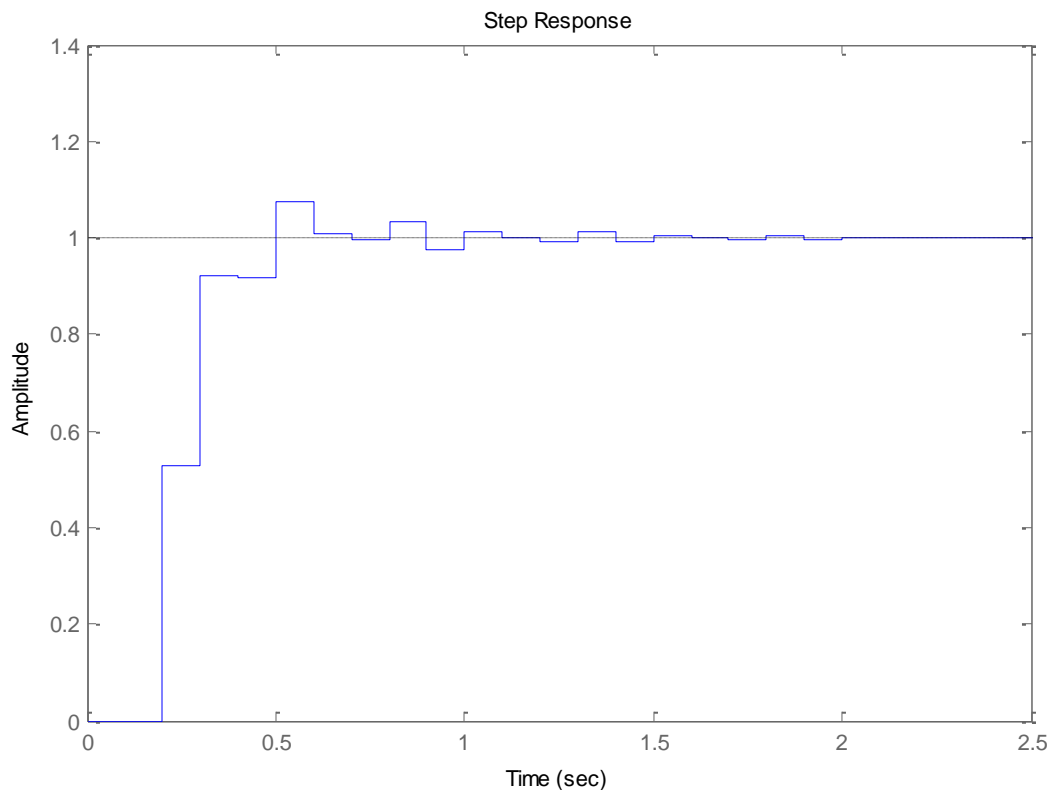

Figure 1. Discrete-time example with w PI controller.
- Move the pole and zero around until the zero is approximately -0.295 and the gain is approximately 0.0563. You should get a figure like that shown in Figure 1.